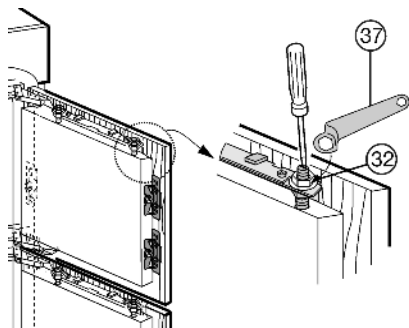

Fig. 27
- ▶ Tighten the locknuts Fig. 27 (32) with the ring wrench Fig. 27 (37) while bracing the adjusting bolts Fig. 27 (33) with a screwdriver.